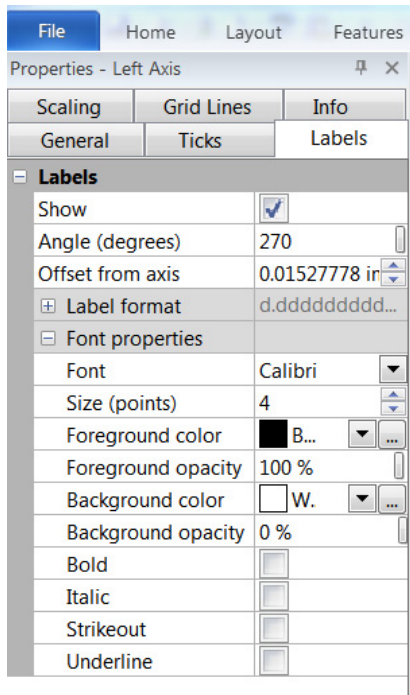

Fig. 21 : edit left axis
- click on *Labels* tab in *Properties* tab on left (Fig. 21)
- expand *Font properties* by clicking on plus symbol (Fig. 21)
- decrease *Size (points)* to 4 (Fig. 21)